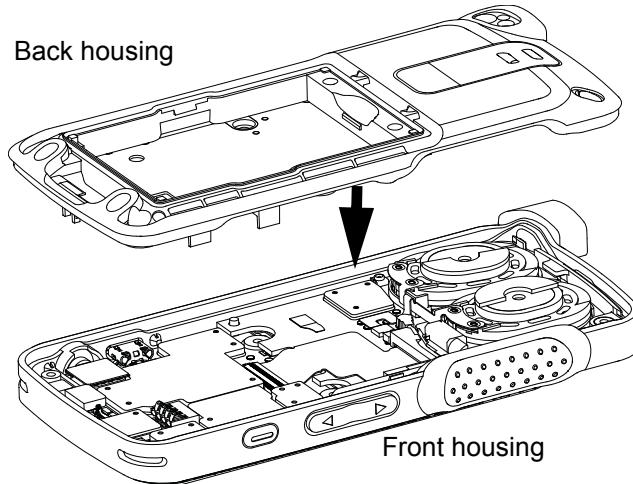

Figure 5-28. Back housing reassembly
1. Place the back housing onto the front housing as shown in Figure 5-28.